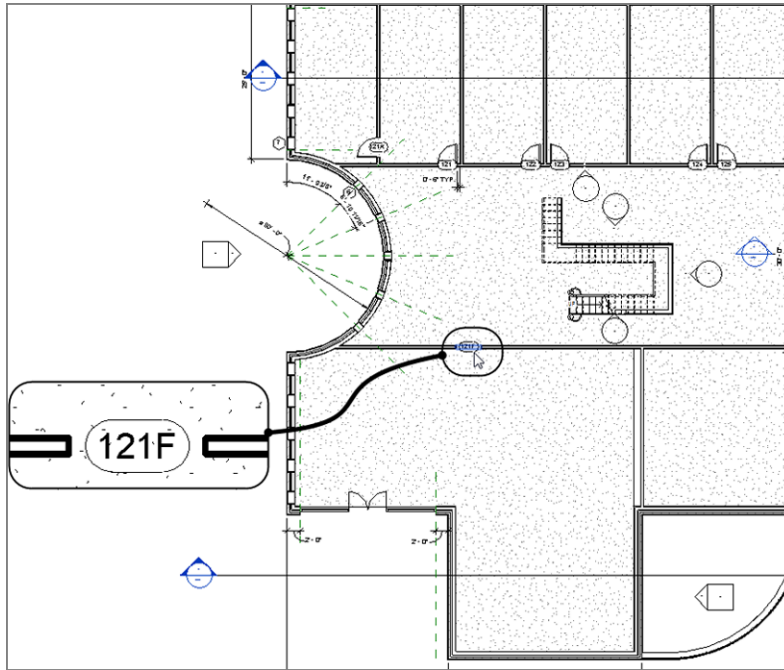

FIGURE 17.20: Adding the family to the project
6. Click the open padlock icon that appears (see Figure 17.20).
15. Insert the new door in the wall, as shown in Figure 17.20. (Don't worry too much about placement.)